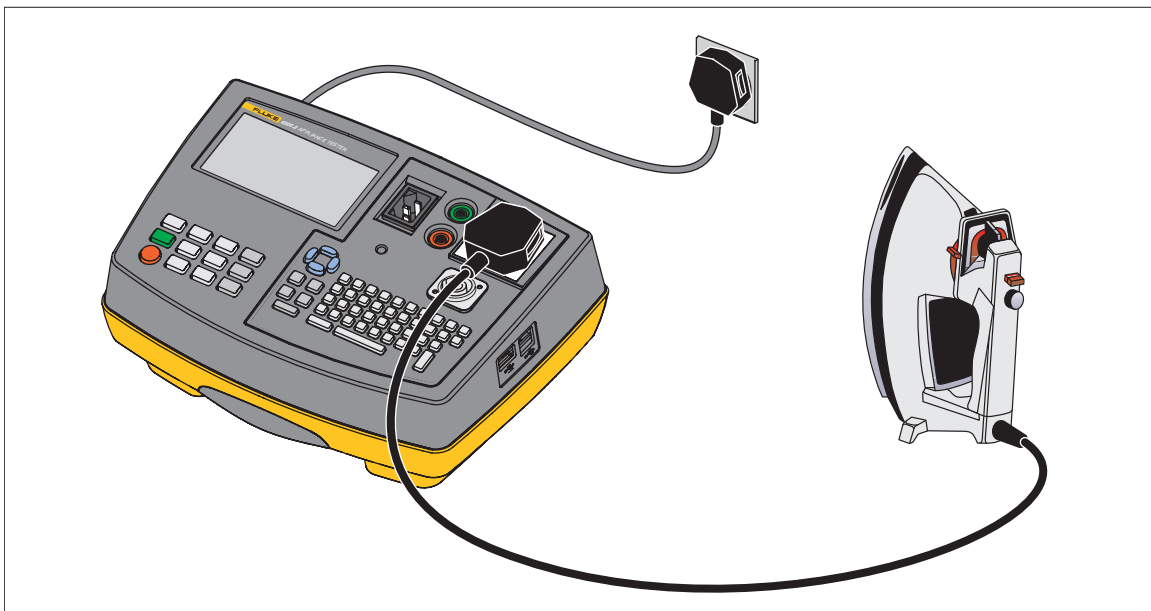
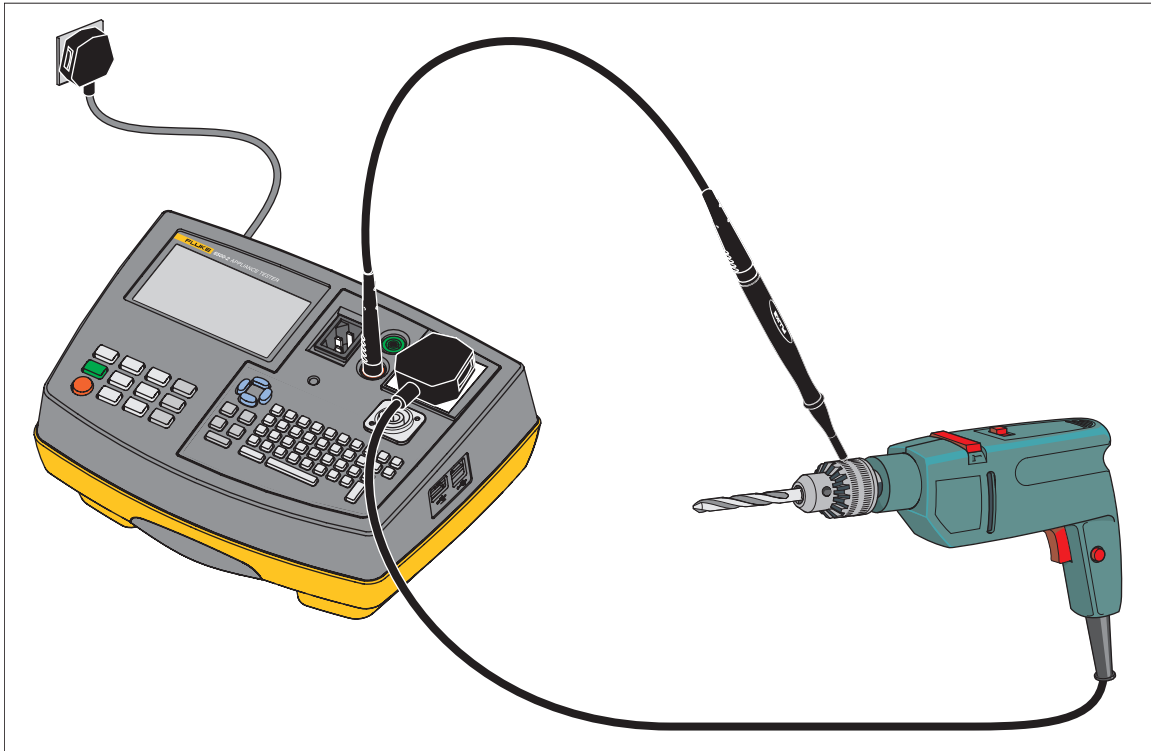

Figure 3. Insulation Test Connections Class 1
Figure 4. Insulation Test Connections Class II
- Connect the appliance and the test probe as indicated on the display, see Figure 3 and Figure 4.